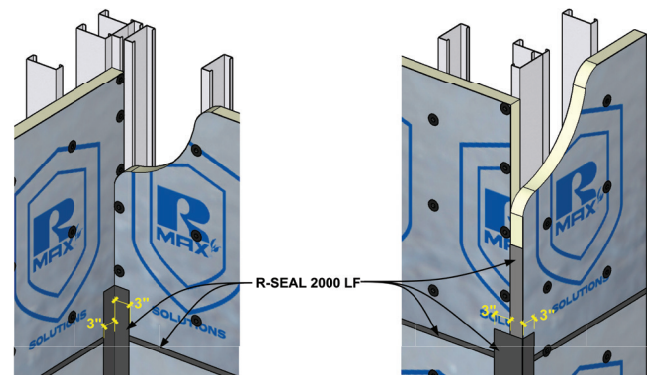

Figure 9
E. Prime exposed foam core at board edges with a light skin coat of R-SEAL 2000 LF (**Reference Figures 9 and 10**).
Reference Figures 9 and 10. For washers that fall within the flashed area, fully cover and extend liquid to ensure a minimum of 1" flashing beyond the washer.